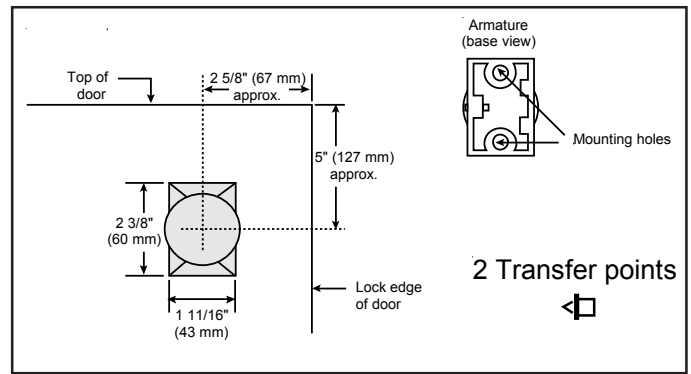

Figure 3. Mounting the Armature Assembly
NOTE: Armature assembly must be mounted vertically (Figure 3) to obtain correct alignment with the electromagnet.
2. Place the transfer marking points in the armature mounting holes (Figure 3).